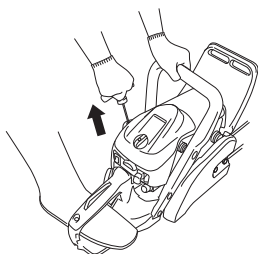

Fig. 16
4. Pull recoil starter briskly, taking care to keep the handle in your grasp and not allowing it to snap back. (Fig. 16)
7. Pull recoil starter briskly again in the aforementioned manner. (Fig. 16)